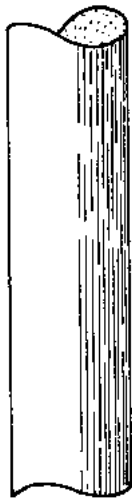

Fig. 1
- CIRCULAR BARS: Round, smooth bars are called circular bars and are available in diameters ranging from 5 mm to 28 mm (Fig. 1, next page). The four sizes most often used in Rural Building have diameters of 6 mm (1/4"), 10 mm (3/8"), 12 mm (1/2") and 18 mm (3/4").